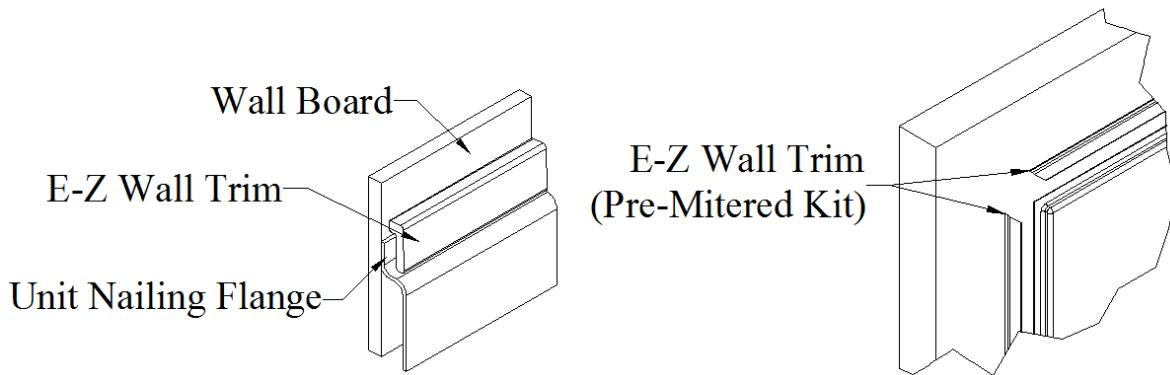

Fig 3
(In an application where the unit is installed over wall board, the Clarion Bathware E-Z Wall Trim Kit (Fig 3) will help you finish your installation quick and easy. For best results your fasteners will need to be flush with the nailing flange. Clarion Bathware recommends centering and counter sinking a corrosion resistance fastener on the nailing flange. Raised fasteners will result in a problematic finishing process of the trim kit.)
E-Z Wall Trim (Fig 3): Clarion Bathware's offers E-Z Wall Trim for a quick and easy installation to finish off the wall nailing flange when the unit is installed over wall board. E-Z Wall Trim is available in pieces or in pre-mitered kits. Contact your supplier or call (800) 576-9228 for more details.